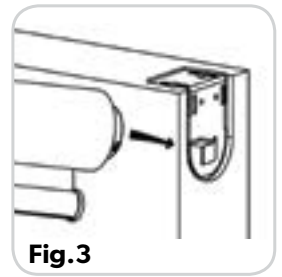

Fig.3
- B. Install the right side of the roller by inserting the tab on the right bracket into tension wheel. (Fig. 3)